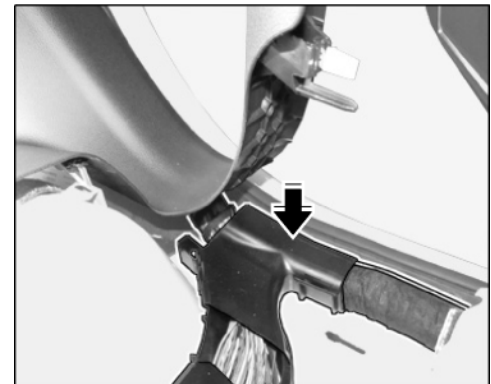

Figure 8
- 2.3.2 Open the rear left cable duct. \Rightarrow *Figure 8 -Arrow-*